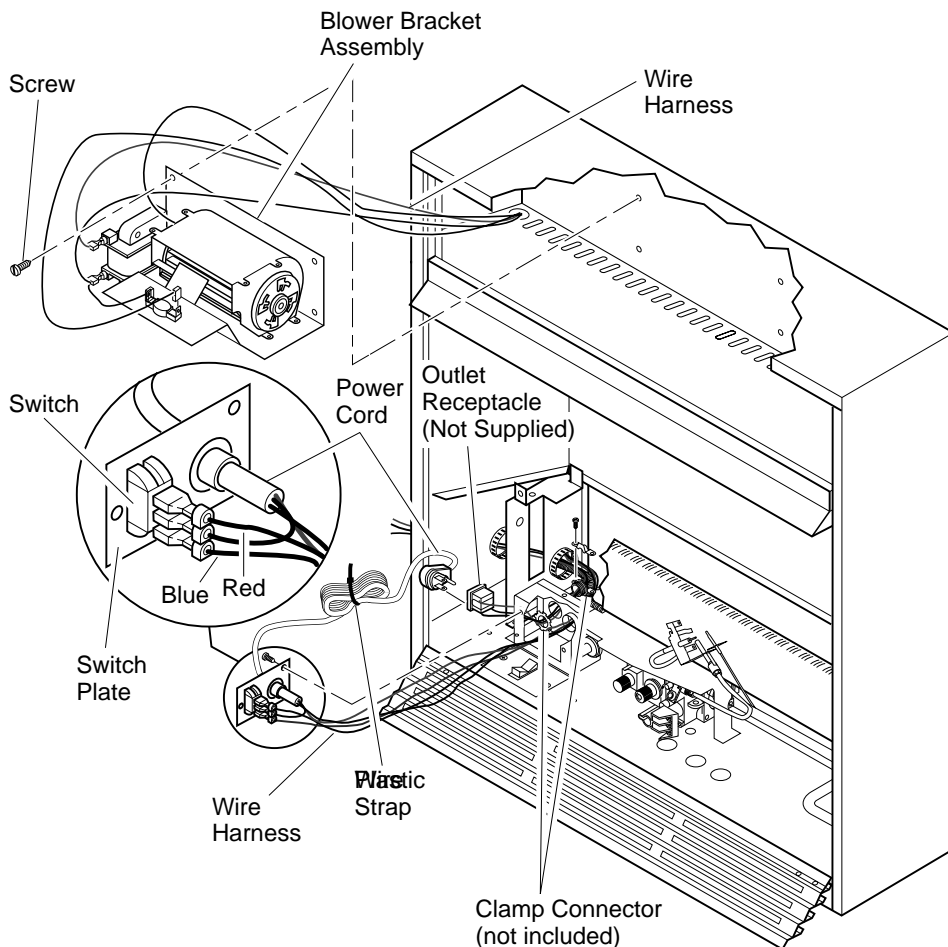

Figure 20 - Installing Blower Bracket Assembly
4. Plug power cord to the outlet receptacle (not provided) as shown in Figure 20. Wind the extra cable in power cord and tie it up with the plastic wire strap (see Figure 20). Set the cable bundle between the burner bracket and outer casing, away from the burner.